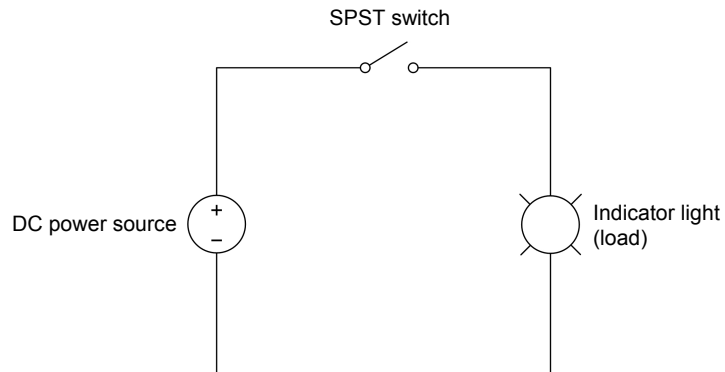
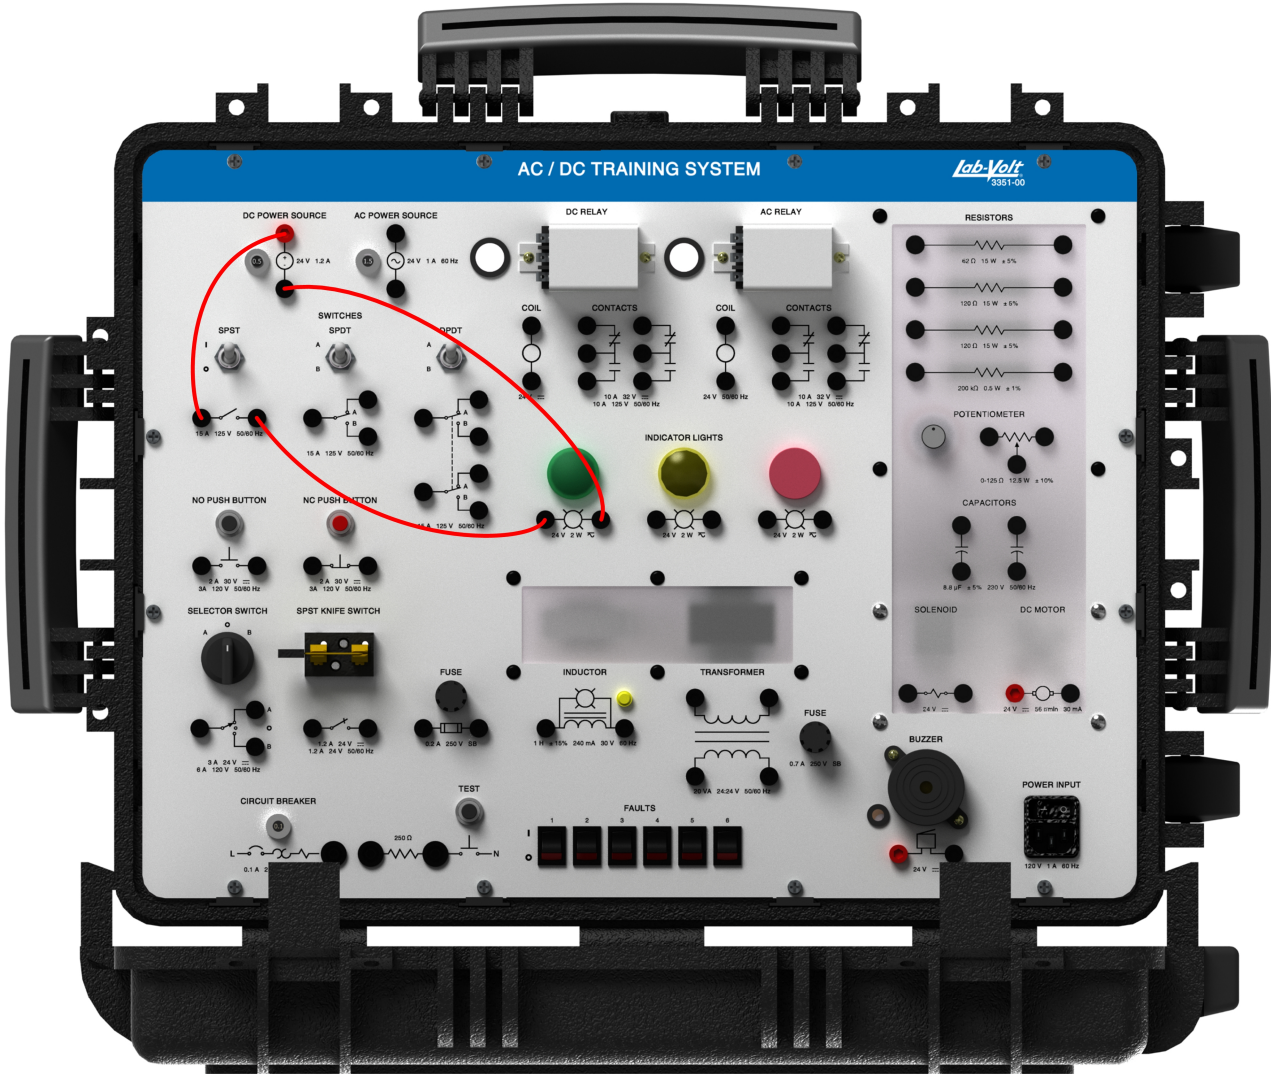

Figure 33. DC power source connected to an indicator light and an SPST switch (circuit diagram).
Figure 34. DC power source connected to an indicator light and an SPST switch (wiring diagram).
20. In the circuit of Figure 33, replace the NC push-button switch by a single-pole single-throw (SPST) switch. When you connect the SPST switch, make sure that it is in its open state. This results in the following circuit. Figure 34 shows the corresponding wiring diagram.